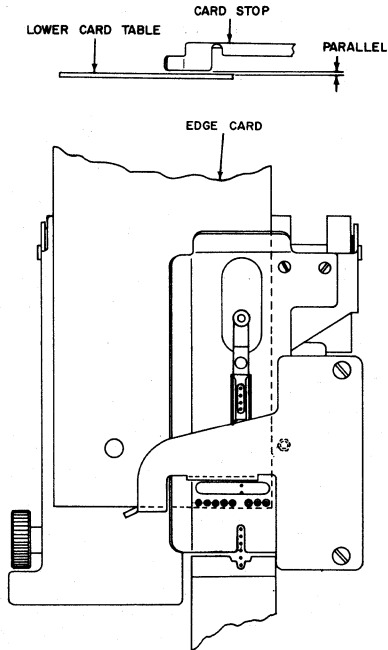

Figure 17
6. Form the card stop, if necessary, so that it is parallel to the lower card table surface (Figure 17). Be careful